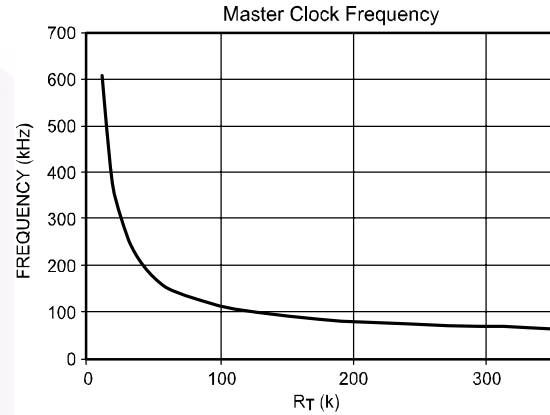

Figure 18. R_T vs. Frequency
The clock frequency on the oscillator is set using an external resistor, connected between R(T) pin and ground. The frequency follows the graph, as shown in Figure 18. The minimum clock frequency is 50kHz, which is when R(T) pin is left open. Select the value of R(T) as shown in the equation below. This equation is valid for all $f_{OSC} > 50\text{kHz}$: